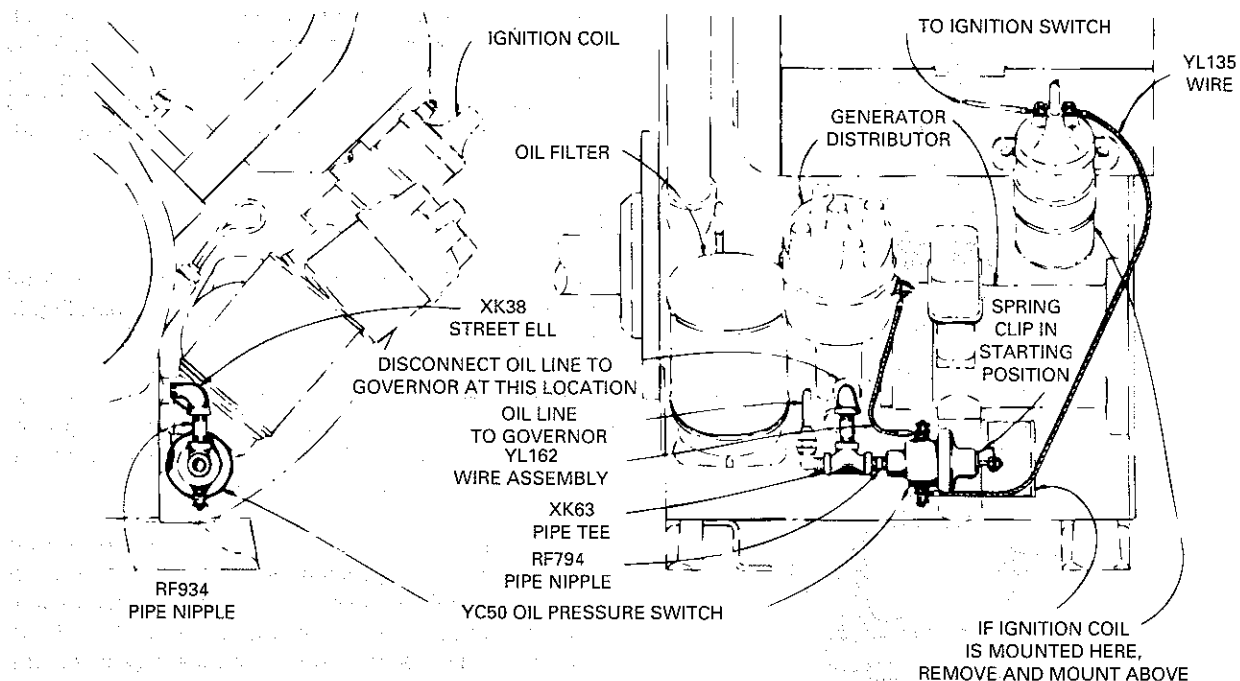

Fig. 4. Oil pressure switch mounting, with battery ignition, distributor
For engines with battery ignition, distributor, use a YC50S2 oil pressure switch kit. Mount switch as follows (see Fig. 4, page 16):
1. If the ignition coil is mounted below the generator, at the position shown in Fig. 4, remove same, from side of crankcase and mount to lower cylinder shroud, as shown. On power units, the coil is mounted to the inside of the front house panel and can be left in this location.